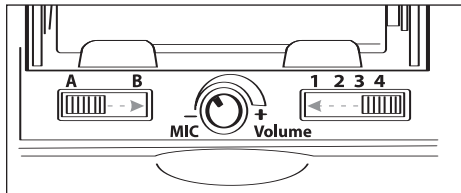

Figure 9
4. If you do not get a clear dial tone, adjust the compatibility switches in the following order as depicted in Figure 9:
Try all switch positions. Choose the setting with the best dial tone and clearest voice (Figure 9).